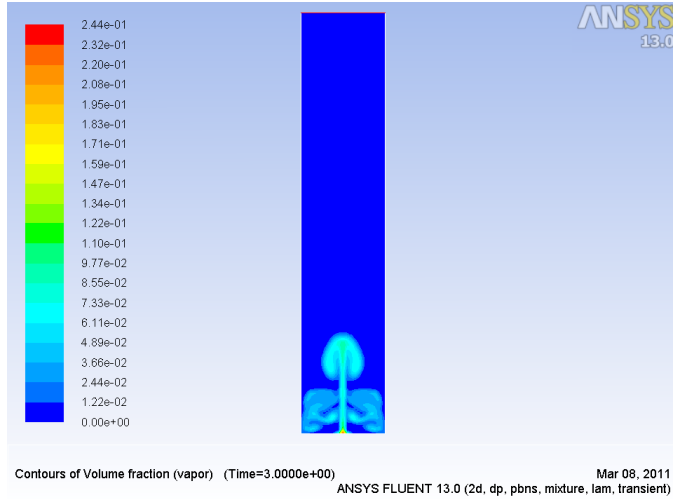

Figure 4: Contours of vapor Volume Fraction
3. Display filled contours of vapor volume fraction (Figure 4).